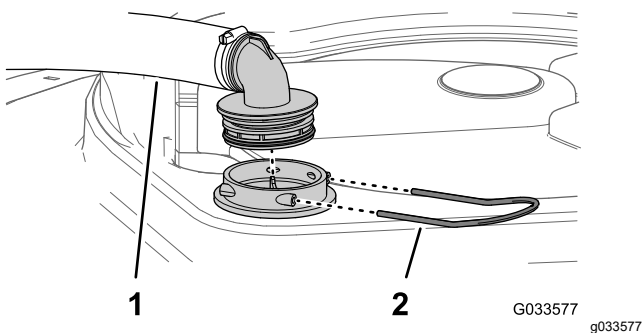

Figure 145
2. At the top of the sprayer tank, remove the retainer that secures the hose fitting attached to the large hose from the filter housing (Figure 145).
3. Remove the hose and hose fitting from the filter housing (Figure 145).